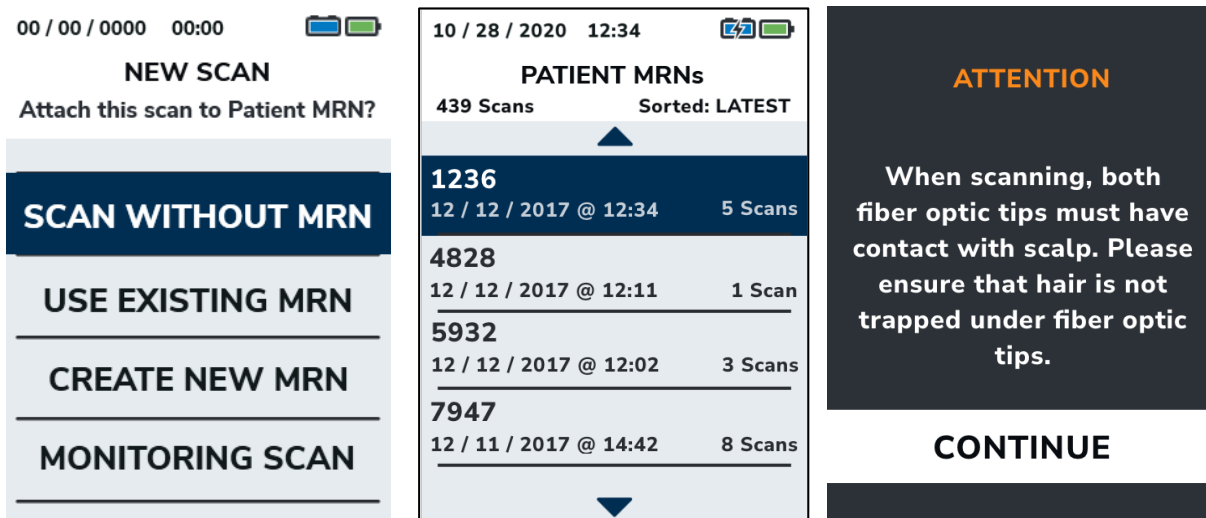

Figure 3-5: New Scan Screen
- 3.2.3 The New Scan screen (Figure 3-5) gives the operator an option to scan without Medical Record Number (MRN), to attached the scan to an existing MRN, to create a new MRN in the system or to perform a Monitoring Scan (future use). After selecting the MRN option (and setting it up, if selected) the operator is reminded to keep good contact with the skin before continuing.